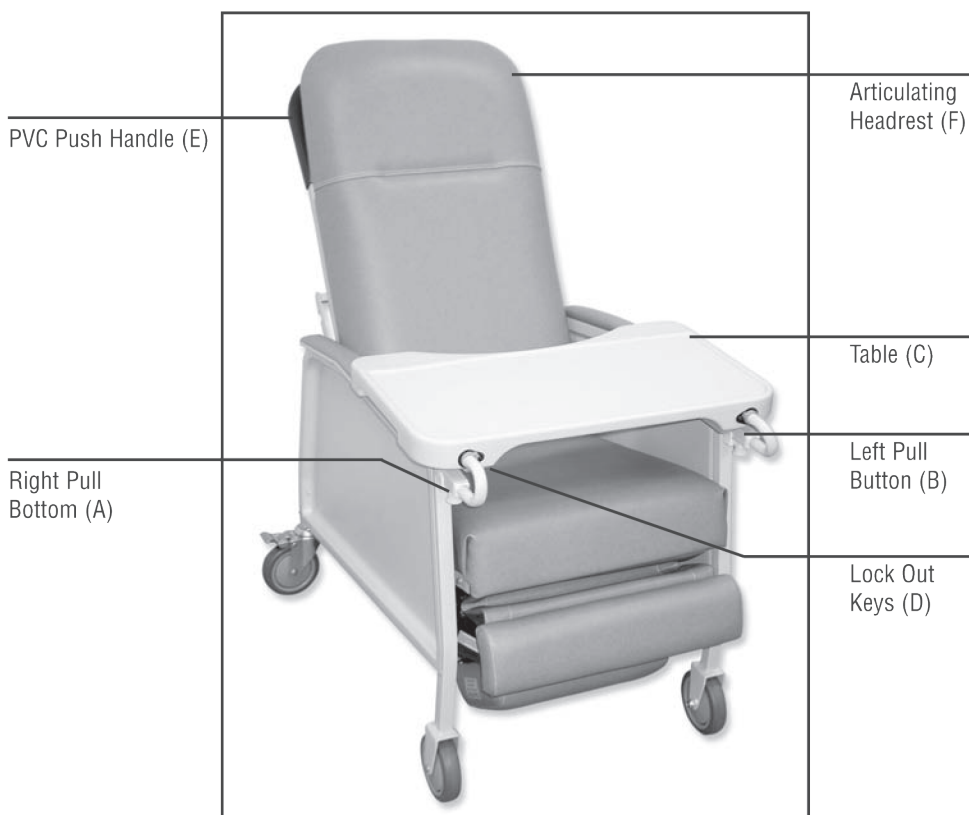

Figure 2
1. Underneath each arm, pull down and hold pull button (Fig.2 A & B) and slide lockout keys forward on both sides (D).